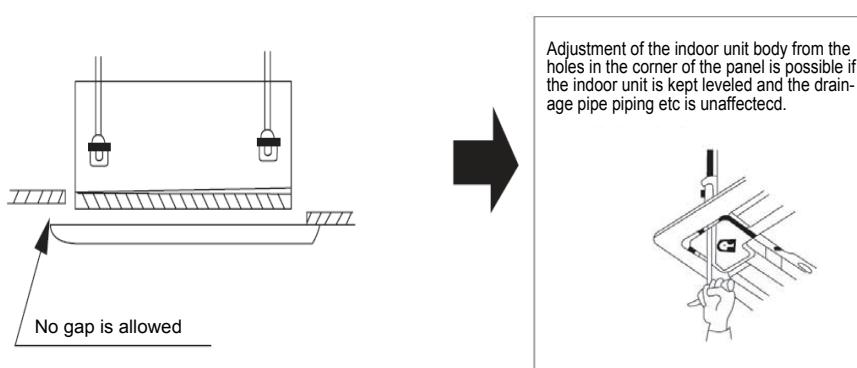

Fig.11.15
- (2). If gap is still left between the ceiling and the panel after screwing the screws, readjust the height of the indoor unit body (Refer to Fig.11.15).